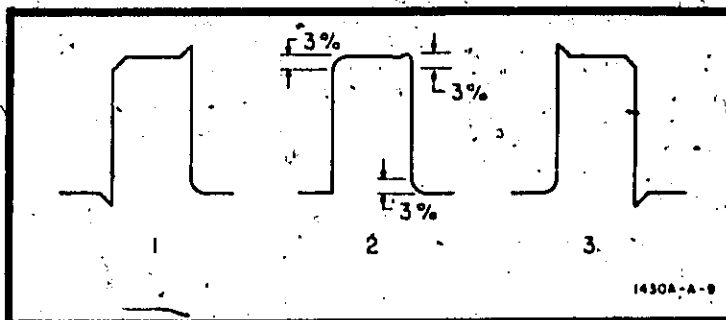

Figure 5-6. Low Frequency Distortion
- d. Adjust Model 1411A MILLIVOLTS/CM and VERNIER to obtain at least 5 div. of display. Set time base TIME/CM to 1 uSEC. The observed square wave should look like one of the three waveforms in Figure 5-6.
- e. Adjust C107 and C108 alternately (C102, C106 and R132) to obtain square wave as shown in Figure 5-6 waveform 2 (minimum peaking or rounding). Rounding of up to 3% can be expected on leading edge. (1430B rounding $\pm 5\%$, overshoot $< 7 \frac{1}{2}\%$).